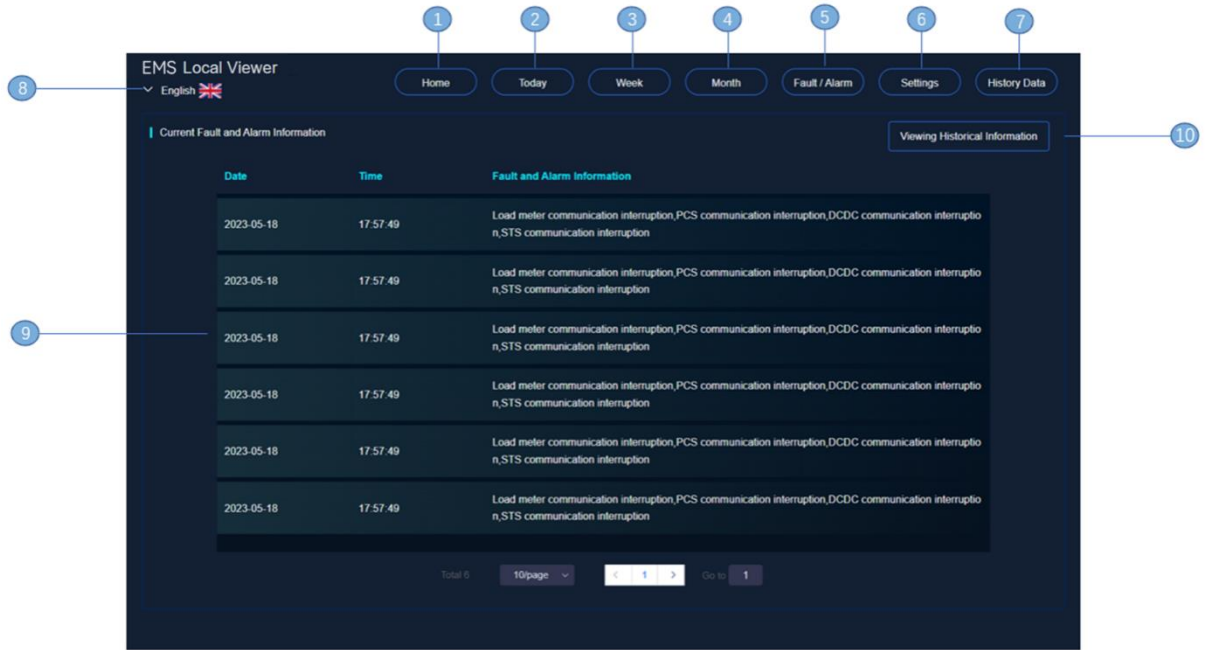
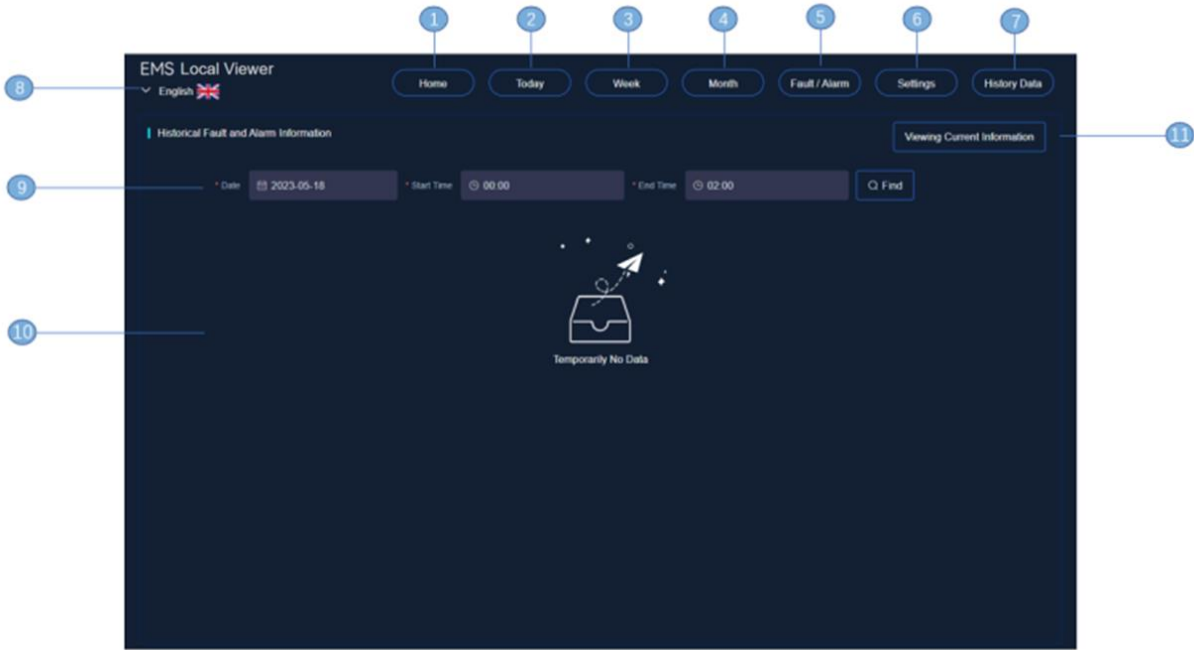

Fig. 7-2 Local Web System Current Fault Alarm Information Page
Fig. 7-3 Local web system history fault alarm information page
2. Click "Fault Alarm Information", that is, button 5, to enter the "System Fault Alarm Information" page, you can view the current equipment fault alarm information, click "View Historical Fault Information" to enter the historical fault alarm page, as shown in Figure 7-2. Click "View Historical Fault Information" to enter the historical fault alarm page, as shown in Figure 7-3. To enter the historical fault alarm page, you can select the date range to view the historical fault alarm information within the date range, click "View Current Fault Information" to return to the current fault alarm information page, as shown in Figure 7-3.